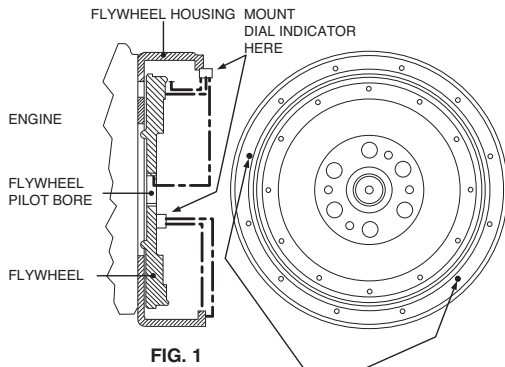

FIG. 1
- 2 Check engine flywheel & housing for conformance to standard SAE No. 3 per SAE J927 and J1033 tolerance specifications for pilot bore size, pilot bore runout and mounting face flatness. Measure and record engine crankshaft end play (Fig. 1).